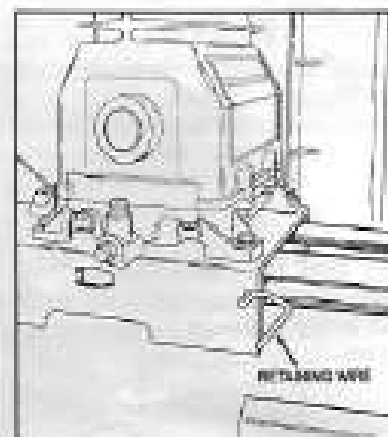
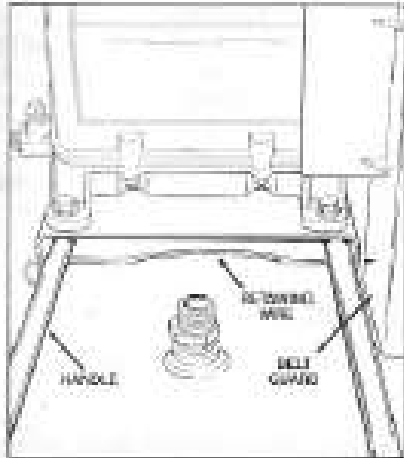

Fig. 3
Fig. 4
2. Grasp the hook at the end of the retaining wire. Insert the pointed end of the wire through the saddle hole (Fig. 3). Guide it through the handle holes on both sides and out the saddle hole on the belt guard side (Fig. 4). The retaining wire is meant to fit very tightly, so you may need to use some effort to push the retaining wire all the way through. You may also need to move the belt guard side of the handle up and down slightly to align the hole. The pointed end of the wire must protrude out of the belt guard side of the saddle.